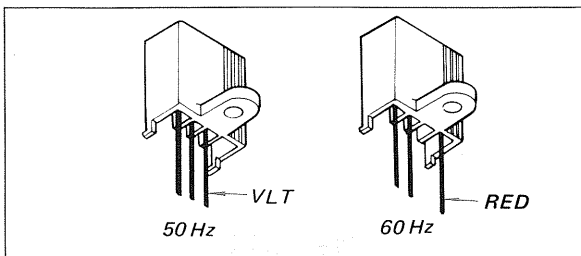

Fig. 3-4. Motor wiring for 50 Hz and 60 Hz
1. Remove the self-tapping screw (Φ P 3 \times 8) securing the 4-p AMPLOK socket to the turntable base and then change the wiring to match the line frequency as shown in Fig. 3-4.